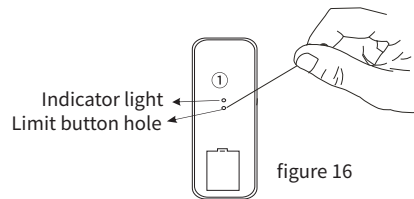
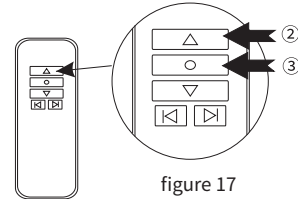

figure 16
figure 17
- Use a small paper clip or small round needle to insert the electronic positioning setting key hole of the elevator on the back of the remote control (as shown in figure 16), press the electronic positioning setting button of the elevator, the red and blue LEDs will light up, and then press the elevator Rack up button, at this time, after the lift rises to a suitable position, press the stop button of the remote control (as shown in Figure 17), and then press the up button electronic positioning setting button, the red and blue light-emitting diodes are off, and the lift moves up and down. Once, the electronic upper limit setting of the lifting frame is completed,